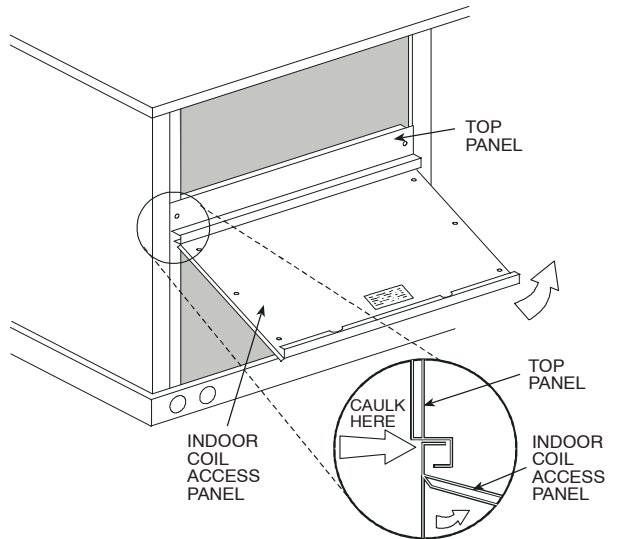

Fig. 11 - Indoor Coil Access Panel Relocation
- The indoor coil access panel will be used as the top of the hood. Remove the screws along the sides and bottom of the indoor coil access panel. See Fig. 11.